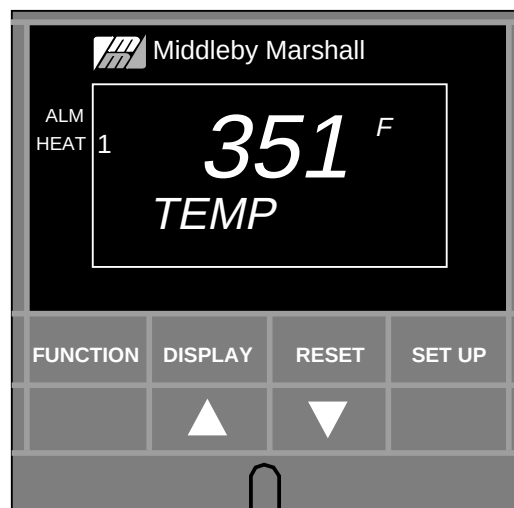

Figure 3-8
2. Displaying the actual oven temperature. Refer to Figure 3-8.
- a. To check the oven temperature press the DISPLAY Button once and the actual oven temperature and the word "TEMP" will be displayed. See Figure 3-8.